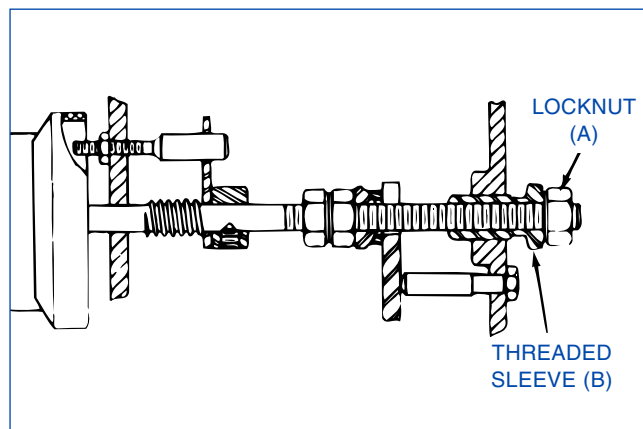

FIGURE 4-8, Light Cutting Pressure Control
10. Loosen Locknut (A) on Light Cutting Pressure Control shaft (see Figure 4-8).
23. While holding light cutting pressure control against stop (at zero) watch honing dial and turn Threaded Sleeve B slowly counterclockwise until the needle moves to between 8 and +1 (refer to Figure 4-8).